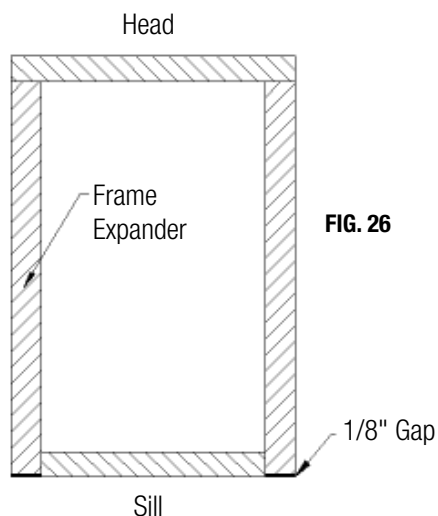

FIG. 26
- I) Cut frame expander to the appropriate size. (Fig 26)